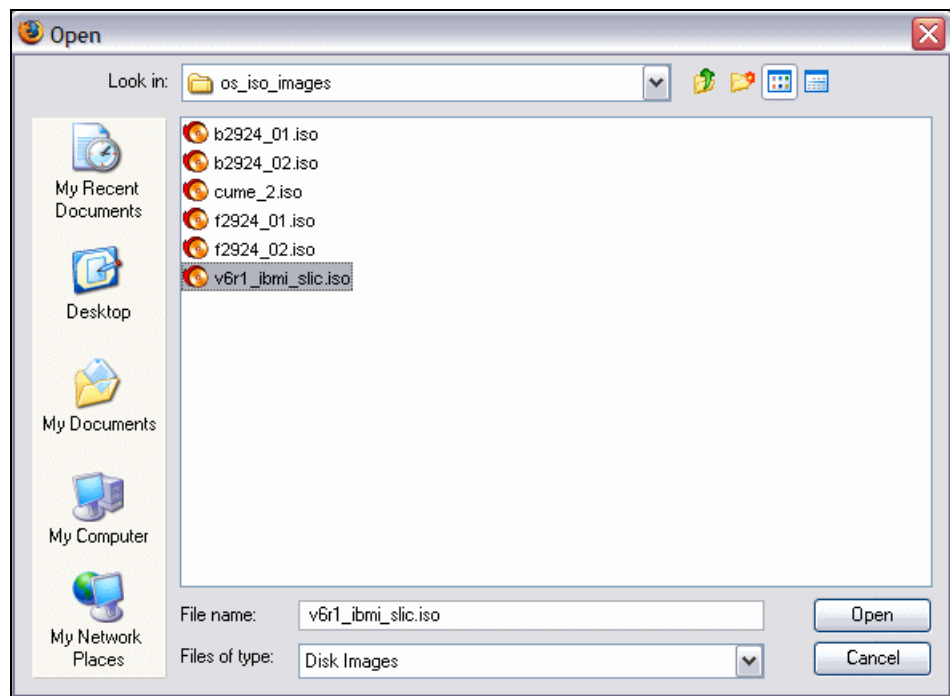

Figure 7-86 Browse and select file
- Select the **Add** button. You will then be able to browse for the specific file you want to add as shown in Figure 7-86 on page 329.